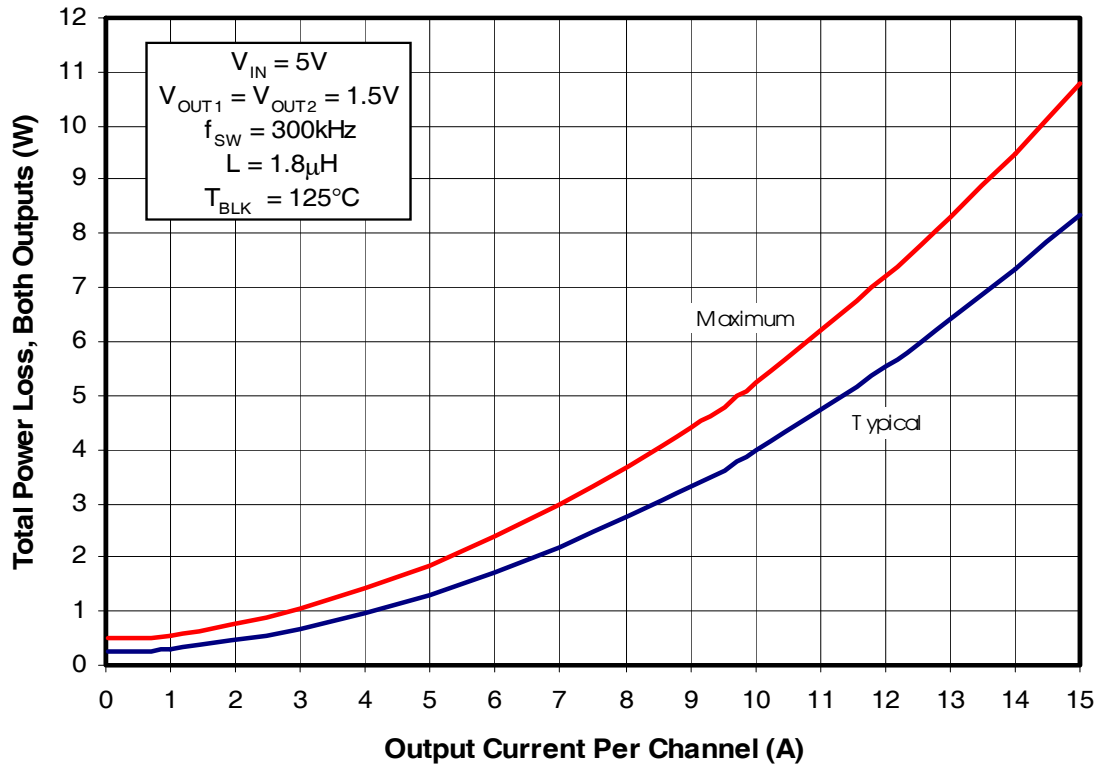
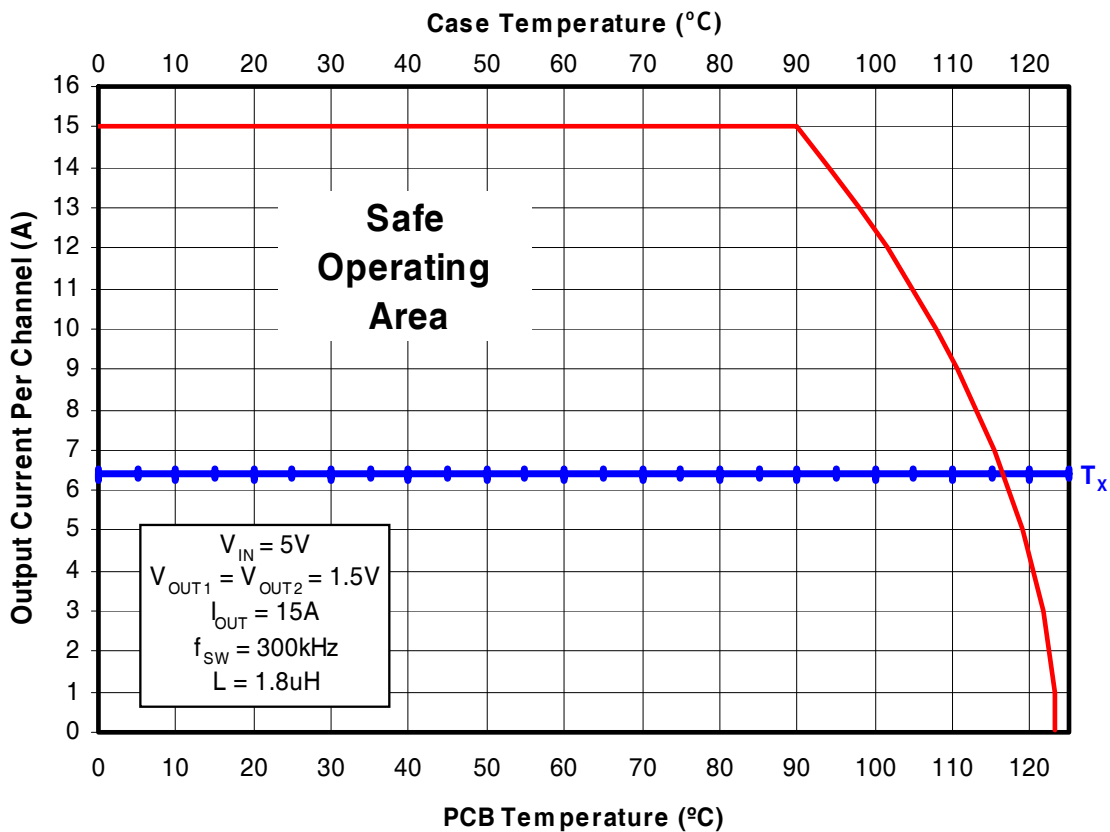
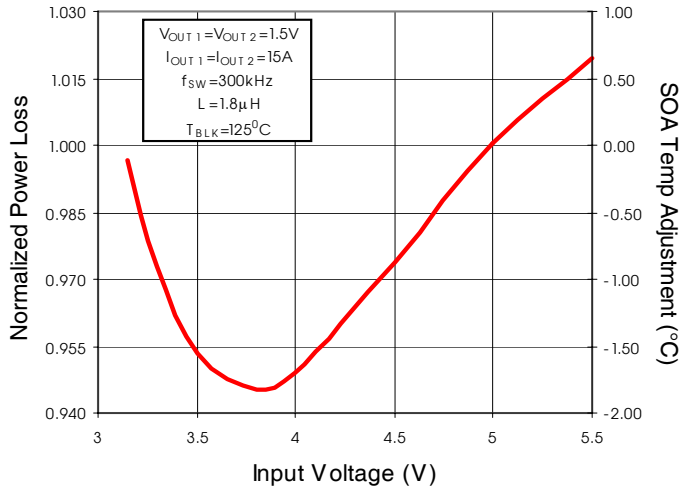

Fig. 2: Power Loss vs. Current
Fig. 3: Safe Operating Area (SOA) vs. T_{PCB} & T_{CASE}
Fig. 4: Normalized Power Loss vs. V_{IN}
To make adjustments to the power loss curves in Fig. 2, multiply the normalized value obtained from the curves in Figs. 4, 5, 6 or 7 by the value indicated on the power loss curve in Fig. 2. Remember that the power loss in Fig 2. is the power loss for 2 outputs operating with the same output voltage. If differing output voltages are used the initial power loss for each channel needs to be divided by 2. Then if multiple adjustments are required, multiply all of the normalized values together, then multiply that product by the value indicated on the power loss curve in Fig. 2. The resulting product is the final power loss based on all factors. See example no. 1.
To make adjustments to the SOA curve in Fig. 3, determine your maximum PCB Temp & Case Temp at the maximum operating current of each iP1201. Then, add the correction temperature from the normalized curves in Figs. 4, 5, 6 or 7 to the T_x axis intercept (see procedure no. 2 above) in Fig. 3. When multiple adjustments are required, add all of the temperatures together, then add the sum to the T_x axis intercept in Fig. 3. See example no. 2.
- Output1 (Fig. 2) Maximum power loss = $5.3W / 2 = 2.65W$
(Fig. 4) Normalized power loss for input voltage ≈ 0.97
- Output2 (Fig. 2) Maximum power loss = $8.25W / 2 = 4.13W$
- Output1 (Fig. 4) Normalized SOA Temperature for input voltage $\approx -1.0^{\circ}C$
- Output2 (Fig. 4) Normalized SOA Temperature for input voltage $\approx -1.0^{\circ}C$